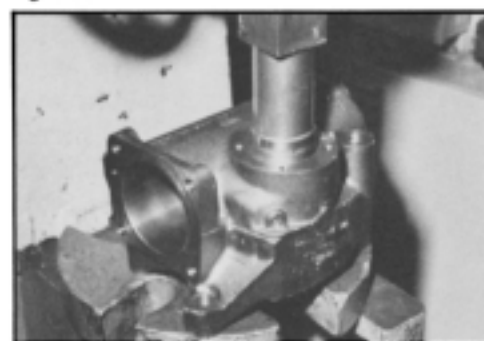

Figure 100
1. If you are installing a **new** housing bearing (57), first install the retaining ring (56) into the groove in the housing bearing (55) bore if it was removed. Place the housing, side cover face down on a wooden block if necessary to protect the cover face. Carefully press the bearing into the housing from the trunnion cover side until the bearing contacts the retaining ring. SEE FIGURE 100. During this procedure be sure the housing is square with the press base and the bearing is not cocked. Lubricate bearing and set housing aside.